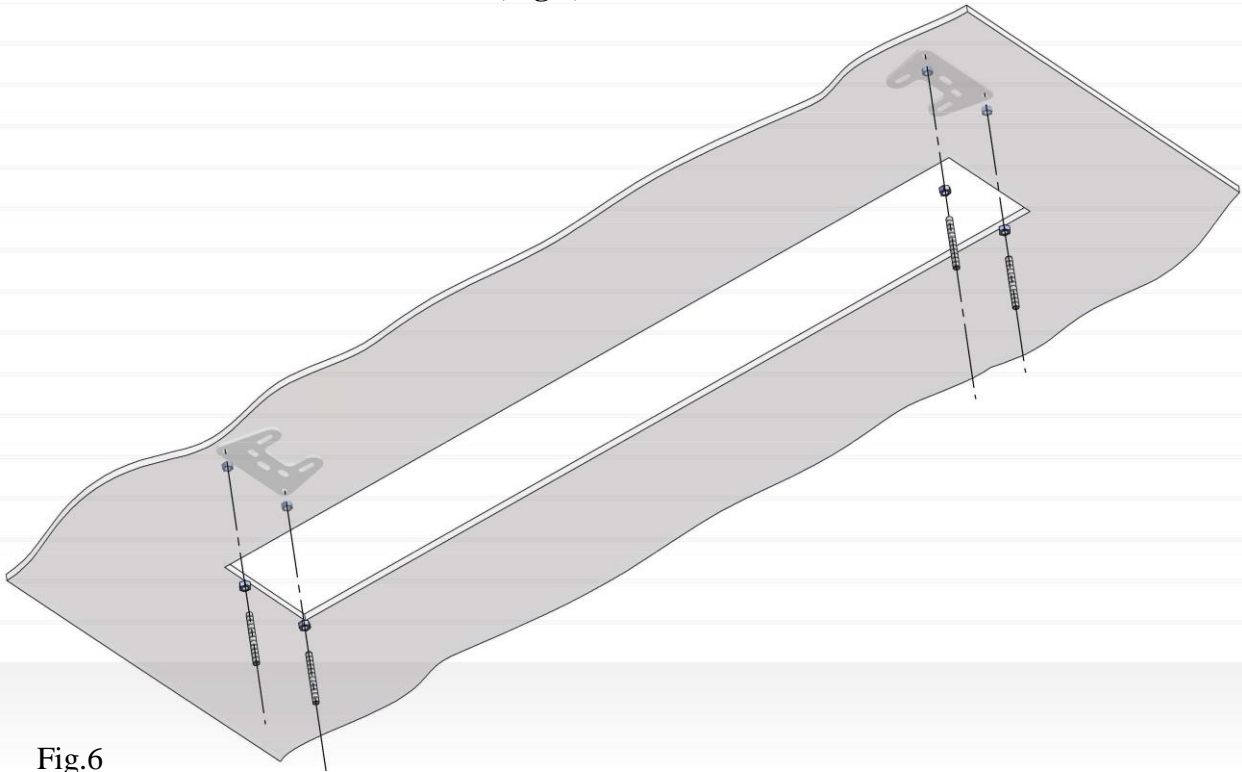

Fig.6
8. After cutting, each of the threaded rods should be screwed into a suitable hole in the mounting support, and then countered with an M8 nut (**Fig.6**).